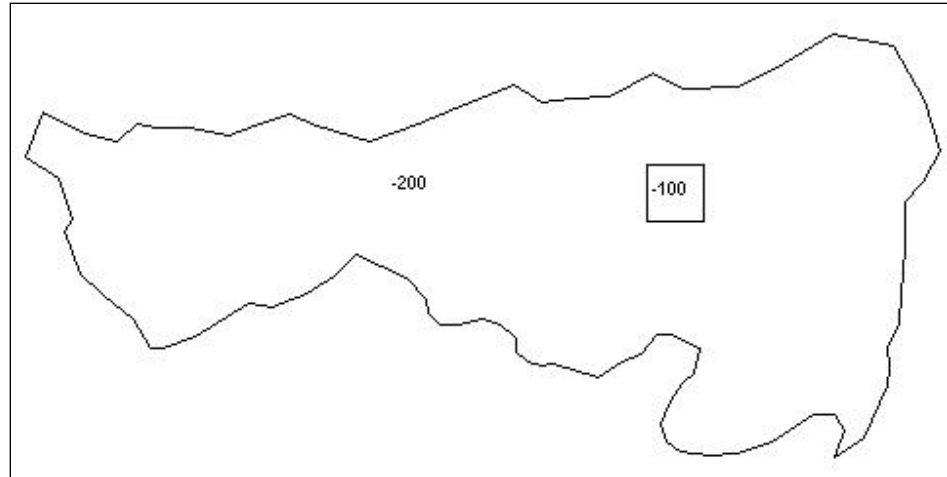

Figure 3 Recharge zones representing aquifer recharge (-200) and landfill leakage (-100)
First, set up the recharge zones. The recharge polygons are shown in Figure 3. Define a parameter for both the small polygon defining the landfill and the larger polygon encompassing the rest of the site. The key values associated with the two zones are shown on the polygons in the figure. The “-200” zone represents recharge to the aquifer from rainfall. The “-100” zone represents leakage from the landfill to the aquifer.
2. Using the **Select Polygon** tool, double-click on the landfill polygon (see Figure 3) to bring up the *Attribute Table* dialog.